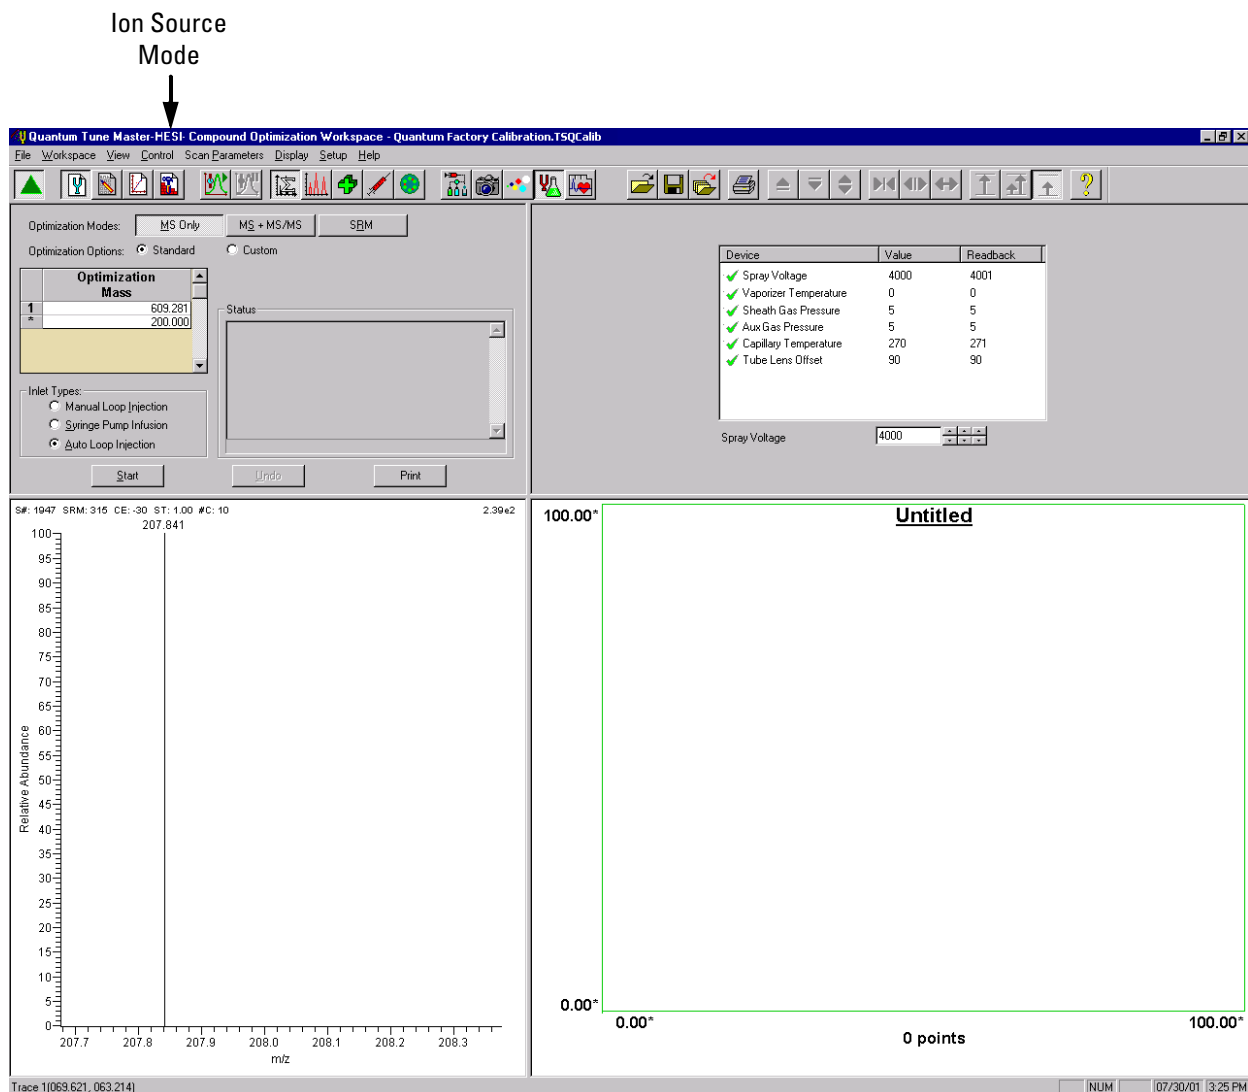

Figure 3-3. Compound Optimization workspace, showing the mass spectrometer in H-ESI mode
2. Tune Master must be placed in the H-ESI source mode before analyzing samples with the H-ESI source. The ion source mode is indicated at the top of the title bar as shown in Figure 3-3. Choose **Setup > Change Ion Source > HESI** to place Tune Master in the H-ESI source mode.
3. Click on the Compound Optimization Workspace button on the Control / Scan Mode toolbar to display the Compound Optimization workspace. See Figure 3-3.